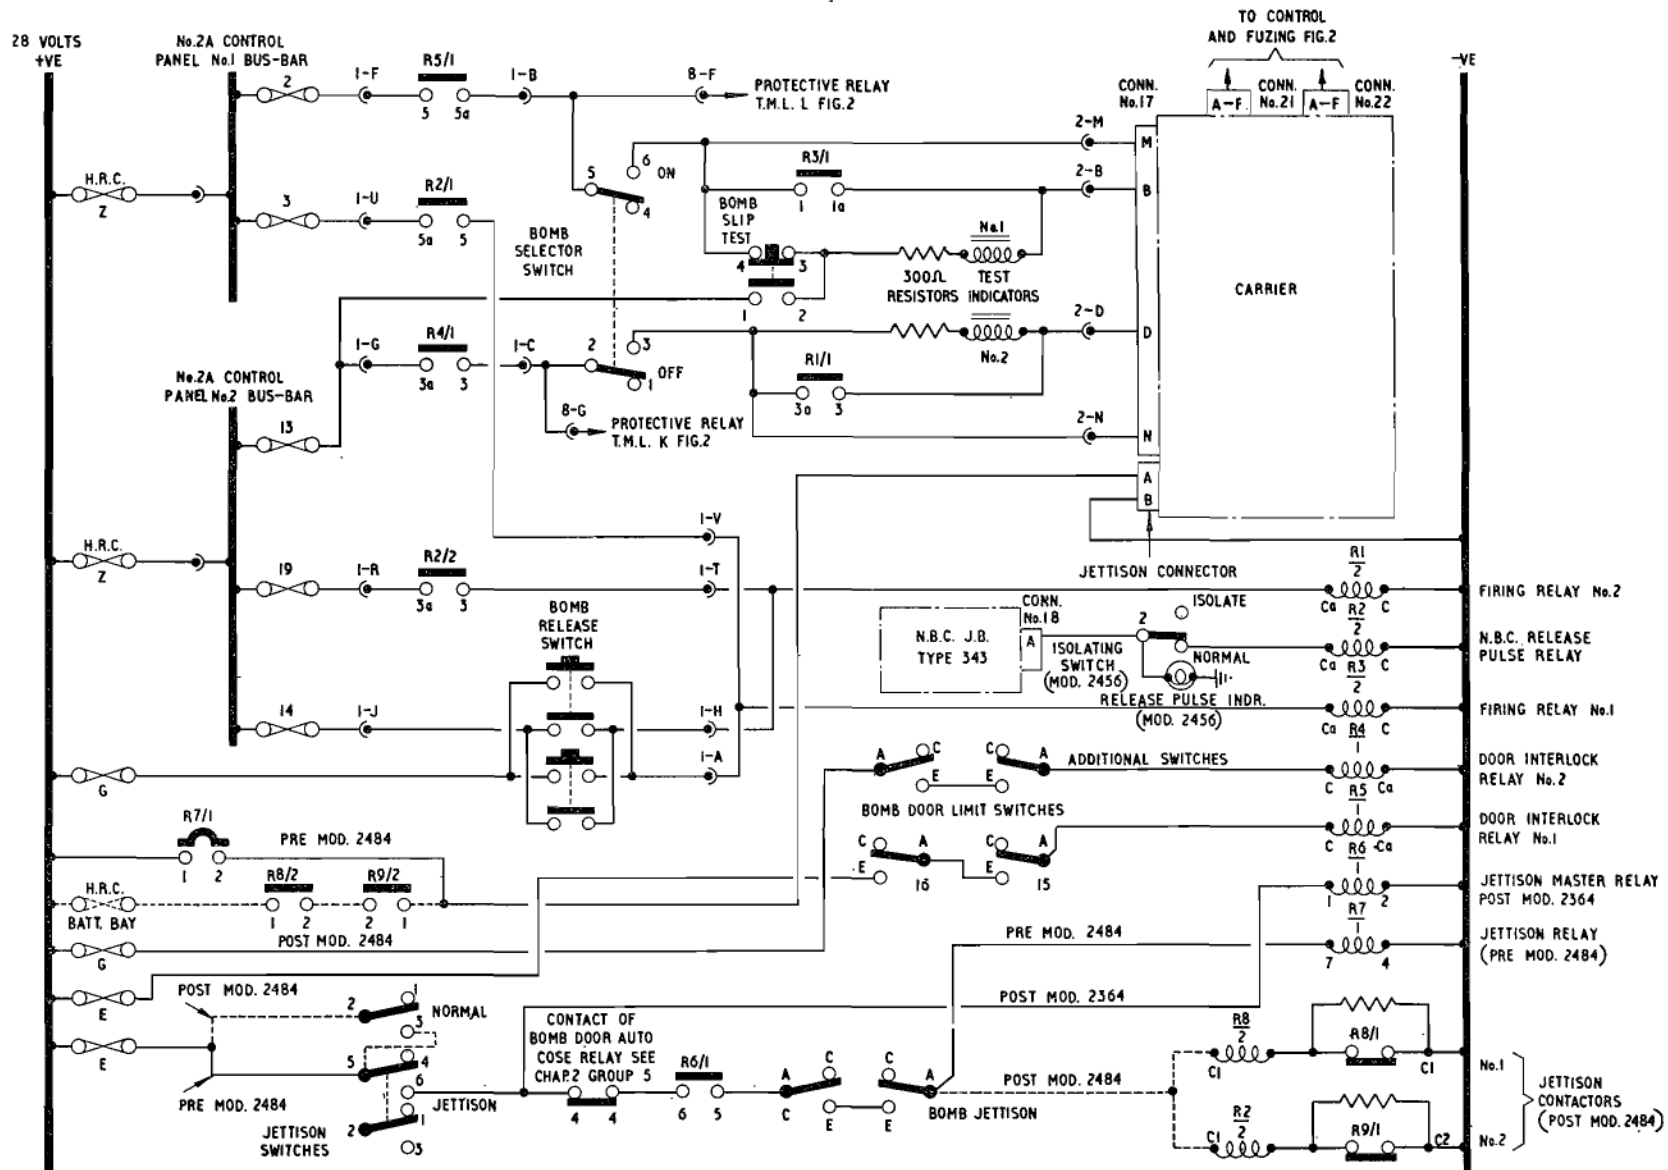

Fig. 1. No. 2A control panel role bomb release (post Mod. 3039 and 3043)
Manual release (*fig. 1*)
N.B.S. release (*fig. 1*)
Bomb slip test (*fig. 1*)
16. When the aircraft attains a speed of approx. 80-85 knots, the U/C airspeed pressure switch connects (A-C) a supply from panel D to the coil of relay R10. Contacts R10/1 close to connect a supply from fuse No. 4 to the protective relay unit. When the undercarriage is raised, the nose U/C uplock indicator microswitch (*Chap. 2, Group 6*) connects (B-C) a supply from fuse No. 21 to the protective relay unit. Two single-phase a.c. supplies are connected to the protective relay unit via fuses, labelled AC1 and AC2, in the control panel. With the bomb doors in the fully open position, relays R4 and R5 operate (*fig. 1*) to connect (R4/1 and R5/1) supplies from fuses No. 2 and No. 13 to the protective relay unit.